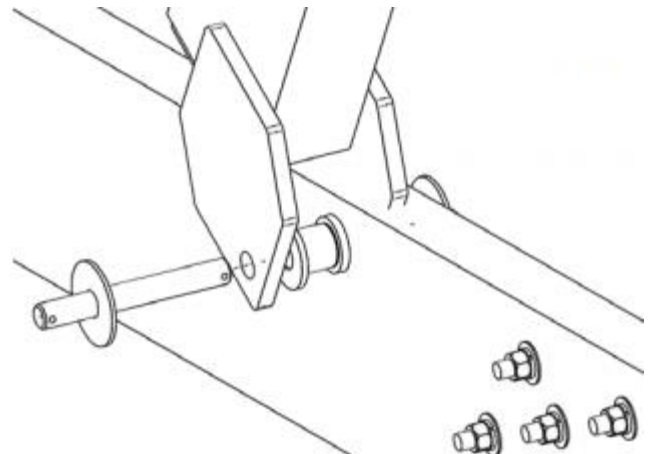

Figure 12
1. Align the mounting holes on the Bow Side H-Frame hinge plate with the Hinge Bushings located on the Side Beam as shown in Figure 12.
2. Insert one (1) 1/8" Cotter Pin into one (1) 1" Hinge Pin, bending the tines of the Cotter Pin outward and apart, securing the Cotter Pin within the Hinge Pin.
4. Slide the Hinge Pin through the hinge plate as shown in Figure 12.
5. Insert one (1) Lollipop Washer and one (1) 1/8" Cotter Pin into the protruding end of the Hinge Pin, bending the tines of the Cotter Pin outward and apart, securing the Cotter Pin within the Hinge Pin.
1. Align the mounting holes on the Middle H-Frame hinge plate with the Hinge Bushings located on the Side Beam as shown in Figure 12.
6. Repeat these steps three (3) more times, once for the opposite side of the Middle H-Frame, and twice for the second Middle H-Frame.